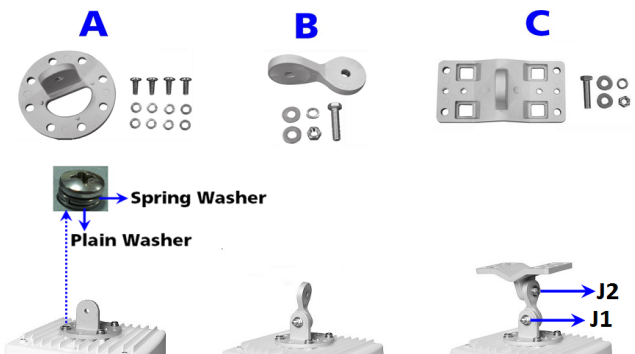

Figure 3: Assemble the Mounting Hardware
- Fix the Mounting Plate (A) onto the bottom of the device using the provided screws and washers such that the antennas will be vertically and horizontally polarized when mounted; also, it is recommended to partially fasten the screws with washers into all the mounting holes, prior to final tightening of each screw. Torque the screws to 75 Lbf-in (86 Kgf-cm).
- Fix the Extension Arm (B) to the fixed Mounting Plate (A) with the provided screw, nut, and washers. The Extension Arm (B) gives the device more possible tilt, letting you adjust for azimuth or elevation over a larger angle.
- Fix the Mounting Bracket (C) to the fixed Extension Arm (B) with the provided screw, nut, and washers. Partially tighten the joints J1 and J2 to allow for alignment of the device.
- The last image in Figure 3 shows the fully assembled mounting hardware attached to the device.